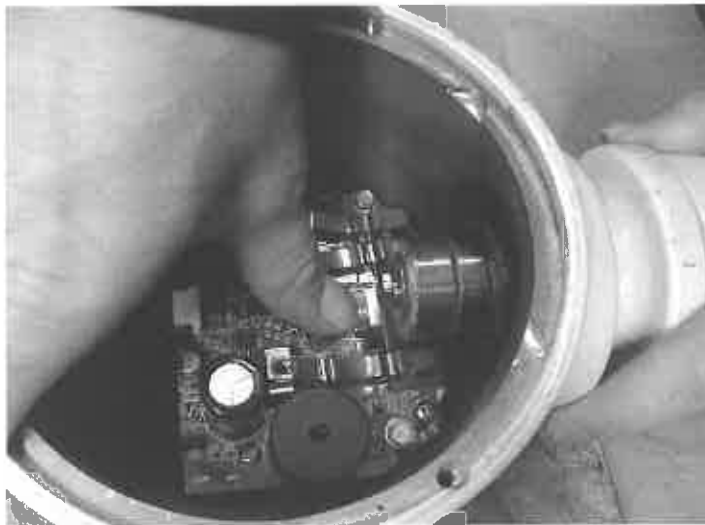

Fig. 11
38. If you used method #1 to replace the circuit, partially insert the yaw shaft assembly into the bearing hole. Place the external snap ring just over the slip rings of the yaw shaft prior to setting the brushes. While holding each brush in its respective guide, insert the yaw shaft into the hole the rest of the way. See Fig. 11. Secure one brush at a time as the yaw shaft is inserted. A rubber mallet may be necessary to tap the yaw shaft in place once all of the brushes are completely seated. Repeat the same operation with each brush until the yaw shaft is fully seated. Use caution with the brushes, they are brittle and may break with too much force applied. Ensure that the gaps between the slip rings do not "grab" the brushes while the yaw is being installed.